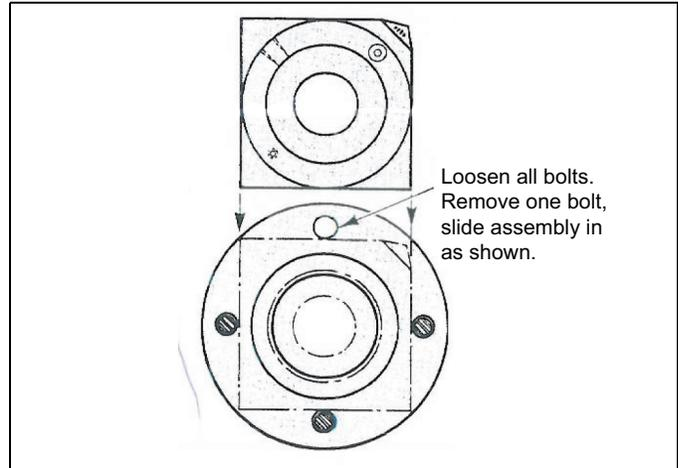

Figure 3.
4. On four bolt flanges, install the gaskets supplied and three bolts loosely, (Figure 3). On eight bolt flanges, install the gaskets supplied and six bolts loosely, (Figure 4).